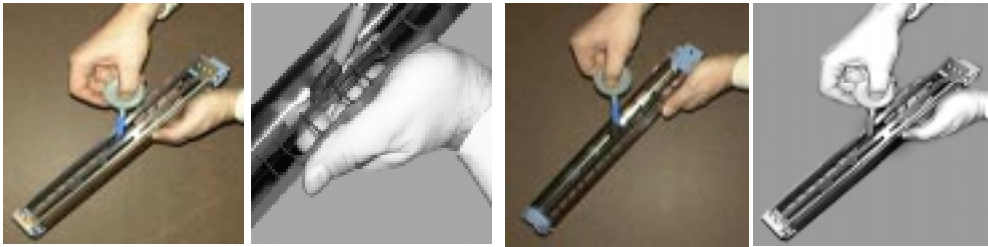

Figure 5-8 Cleaning the Transfer Assembly
4. Use the supplied blower brush, stored in a pocket inside the front door, to clean the transfer assembly wire (see Figure 5-8.) Move the brush back and forth across the wires while quickly squeezing the rubber handle. This blows air to help remove toner and paper dust. Turn the transfer assembly over so the opposite side can be cleaned in the same way, and do so. Set the transfer assembly aside in a safe location.